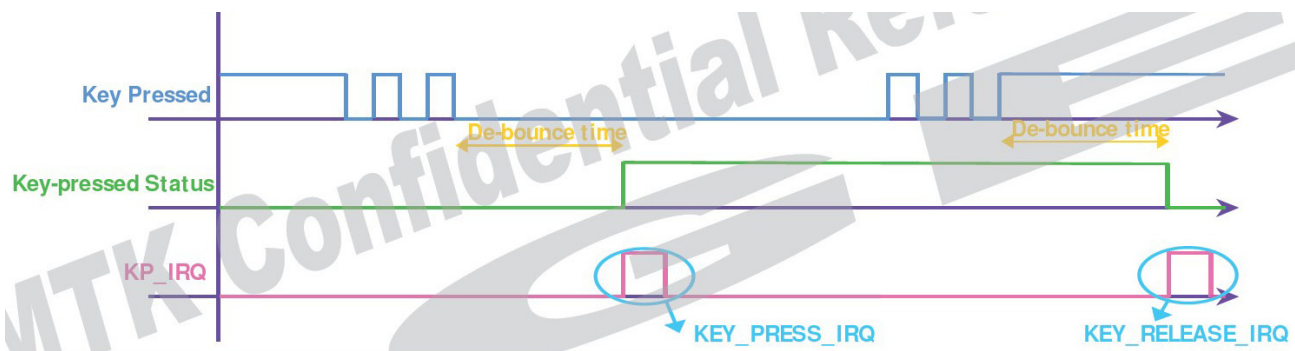
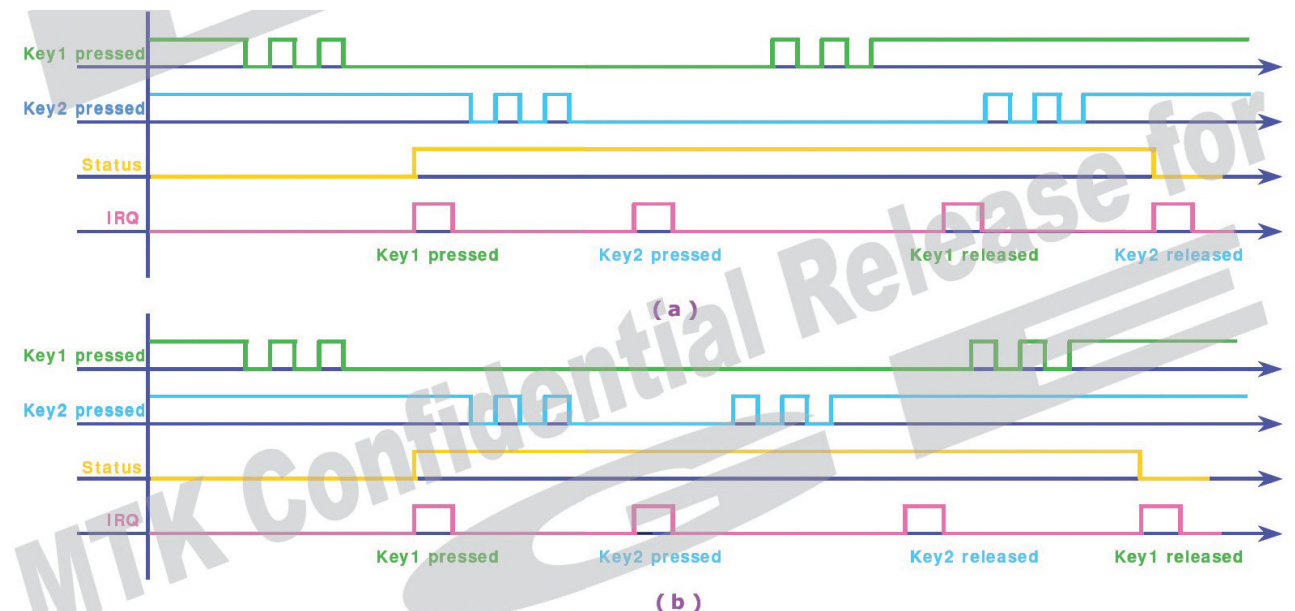

Figure 3.12.3 One key pressed with de-bounce mechanism denoted
Figure 3.12.4 Two keys pressed, case 1 (b) Two keys pressed, case 2
This keypad can detect one or two key-pressed simultaneously with any combination. Figure 3.12.3 shows one key pressed condition. Figure 3.12.4(a) and Figure 3.12.4(b) illustrate two keys pressed cases. Since the key press detection depends on the HIGH or LOW level of the external keypad interface, if keys are pressed at the same time and there exists a key that is on the same column and the same row with the other keys, the pressed key cannot be correctly decoded. For example, if there are three key presses: key1 = (x1, y1), key2 = (x2, y2), and key3 = (x1, y2), then both key3 and key4 = (x2, y1) are detected, and therefore they cannot be distinguished correctly. Hence, the keypad can detect only one or two keys pressed simultaneously at any combination. More than two keys pressed simultaneously in a specific pattern retrieve the wrong information.